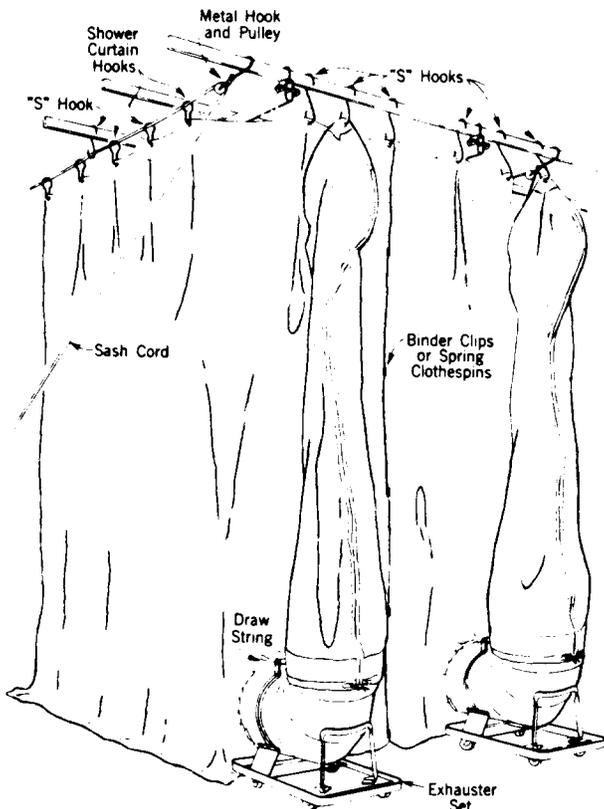

Fig. 4—Curtains With Exhauster Sets in Place
ends of the curtain may be pushed into the space between the upright supports of adjacent frames. (See Fig. 4.)
4.11 Attach the curtains to the exhauster sets with the intake side of the exhauster inside the enclosure. The drawstring should hold the curtains securely attached to the exhauster. (See Fig. 4.) The removable length of metal chain shall be in place in the hem at the bottom of the curtain centrally located below the exhauster openings in order to weight this portion of the curtain to the floor.